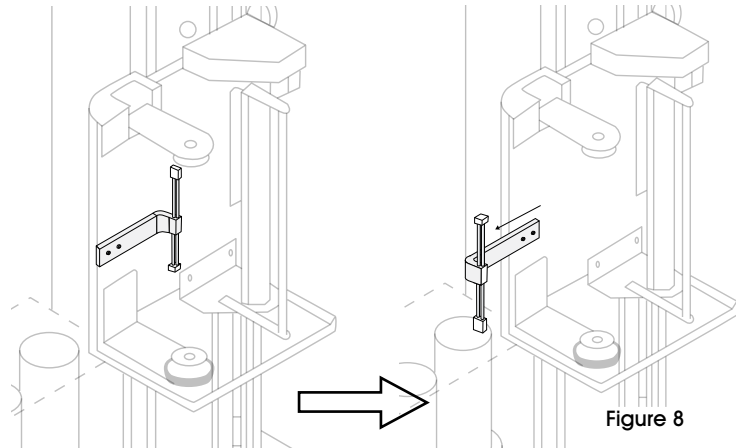

Figure 8
7. The next step is to remount the photo sensor from its protected shipping position. (See Figure 8)